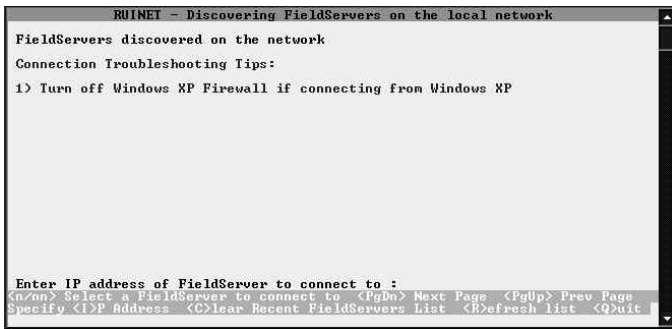

Figure 9: RUINET PT-Link II Specify IP Address
2.) If RUINET is in the desktop directory (if it isn't, locate its directory), double-click on RUINET, and the RUINET program should run. Initially, you might see the screen below (Figure 9). Type <1> for Specify IP Address and the message "Enter IP Address of the Field Server to Connect to" will appear on the screen.